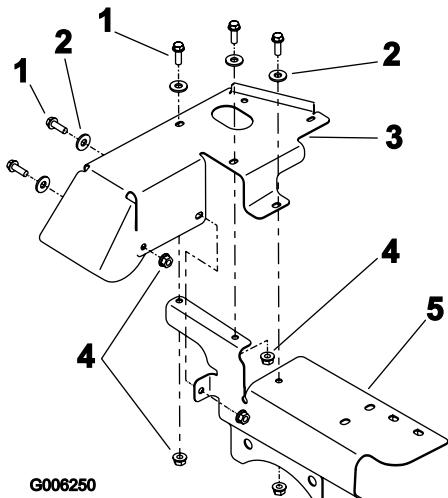

Figure 3
1. Bolt the two formed heat shield parts together with 5 bolts (1/4 x 3/4 inches), 5 flat washers (5/16 inch), and 5 flange nuts (1/4 inch) as shown in Figure 3.